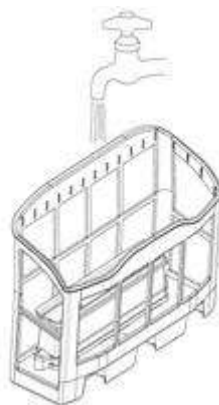

Figure 4-4
4.2.3 Cleaning of the filter box Rinsing the dirt of the filter screen with clear water (Figure 4-4),